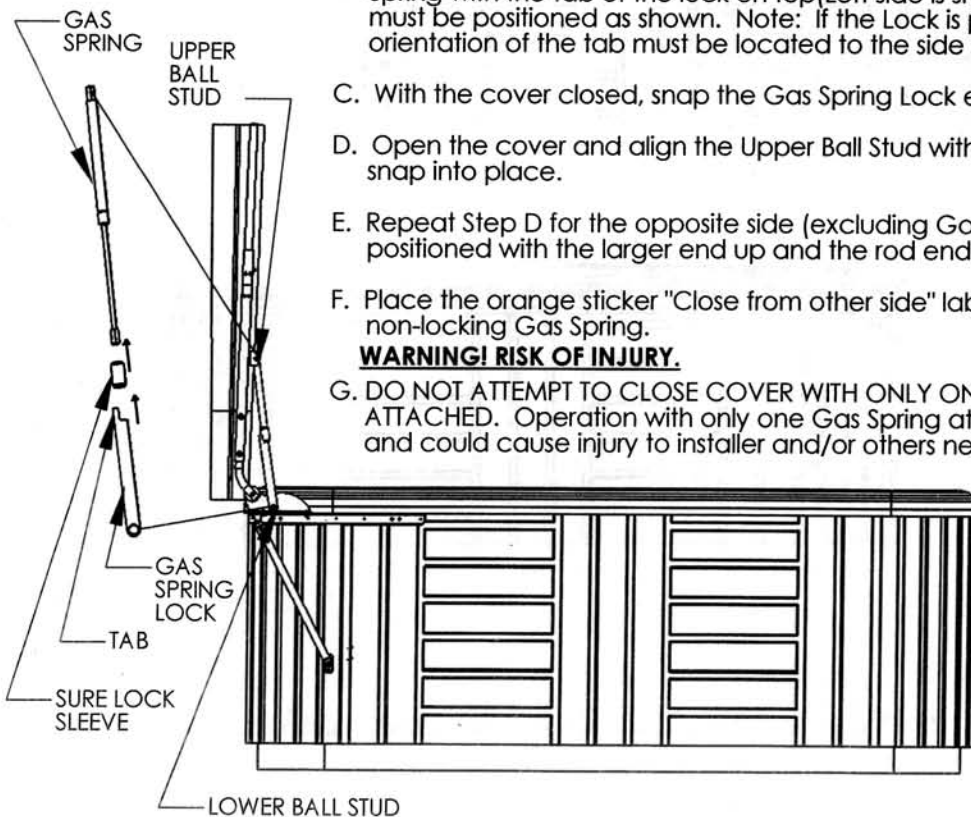

FIGURE 9
- B. Position the Gas Spring Lock and Sure Lock Sleeve over the small rod end of the Gas Spring with the tab of the lock on top(Left side is shown in Figure 9). The tab on the Lock must be positioned as shown. Note: If the Lock is placed on the other side(Right), the orientation of the tab must be located to the side closet to the spa cover.